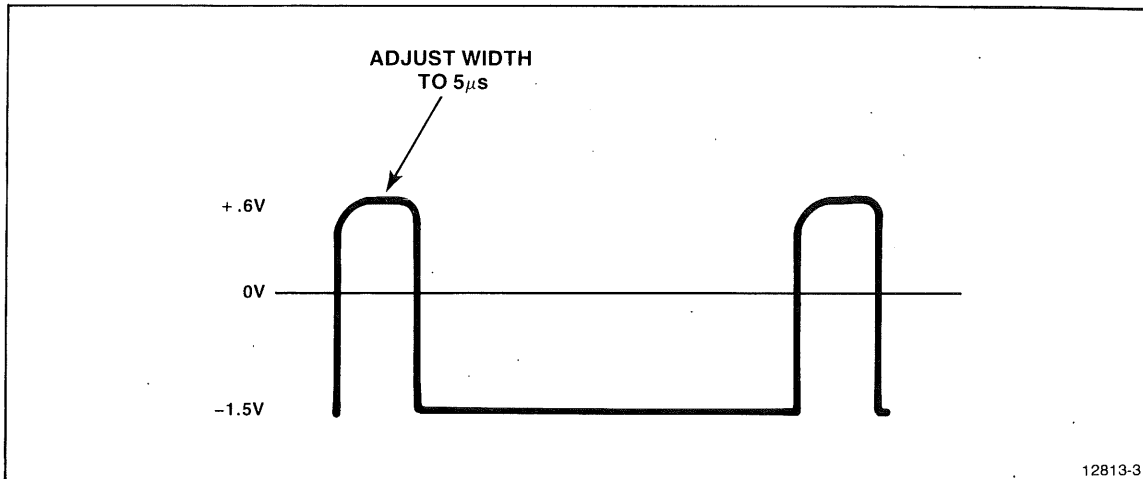

Figure 3-3. Base Drive Waveform.
- e. Adjust the PWM control to set the positive pulse width to about a 30% duty cycle or about 5 us (see Figure 3-3).